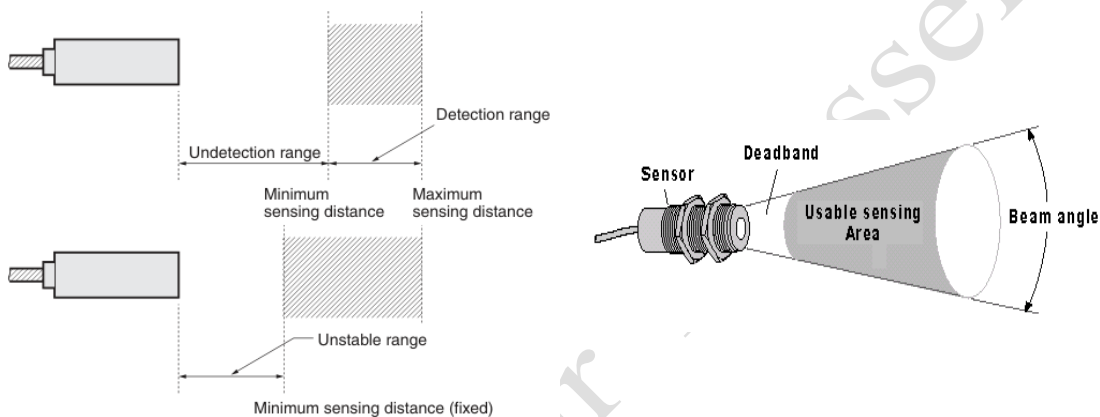

Fig.29 Limit zone and non-sensitive zone.
- b. Limit zone (reflective models-Fig.29): Not only the maximum detection distance but also the minimum detection distance can be adjusted, in connection with or independently of the maximum distance. This detection range is called the limit zone (zone limit).
- c. Non-sensitive zone and uncertainty zone (reflective models-Fig.29): The non-sensitive zone is the interval between the surface of the sensor head and the minimum detection distance resulting from detection distance adjustment. The uncertainty zone is the area close to the sensor where detection is not possible due to the sensor head configuration and reverberations. Detection may occur in the uncertainty zone due to multi-reflection between the sensor and the object.